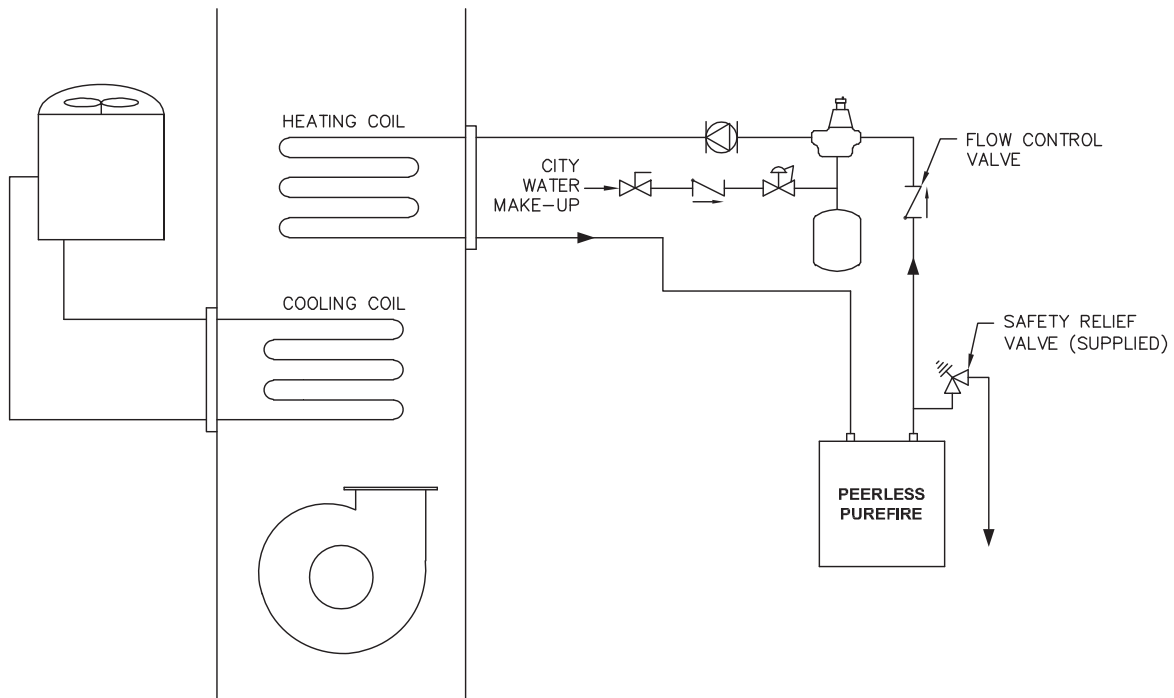

Figure 4.11: Boiler Connected to a Heating Coil in a Forced Air System
2. For boilers connected to heating coils in a forced air system where they may be exposed to chilled air circulation, install flow control valves or other automatic means to prevent gravity circulation of the boiler water during cooling cycles. See Figure 4.11 for an illustration.